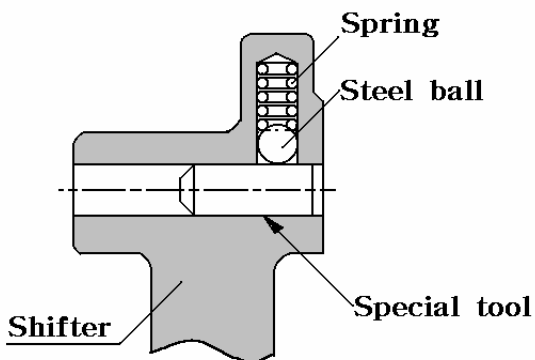

Fig.5-87
(3) Reassembly
c.When installing the shifter on the shifter stay, Use the special tool as shown in Fig.5-87